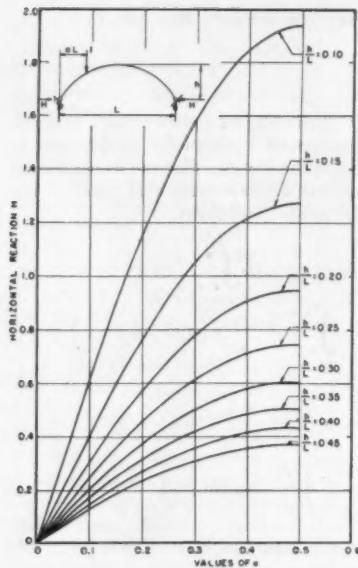
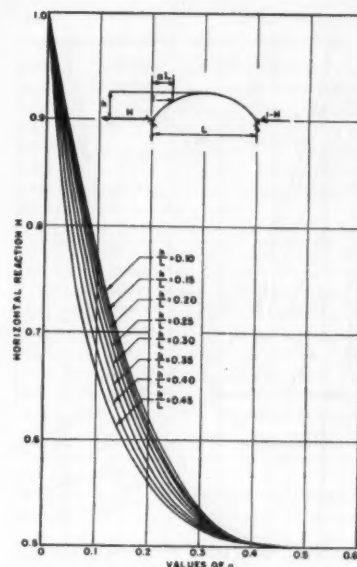

FIG. 3. Influence lines for horizontal reaction in circular arches of constant section—vertical loading.
FIG. 7. Influence lines for horizontal reaction in circular arches of constant section—horizontal loading.
**FIG. 3. Air jack of 300-ton capacity was vital factor in raising platform on caissons. Jack consists of three main parts—upper inflatable rubber gripper, expandable and retractable bellows, and lower inflatable rubber gripper.**
The second problem, the raising of the tower, was solved in the following way. In each of the six temporary caisson brackets, there were two caissons of 6-ft diameter. On each of the temporary caissons there were two air jacks each of 300-ton capacity (Fig. 3). An air jack consists of three major components: (1) an upper section containing an inflatable rubber gripper enclosed in a steel housing, which is fastened to the caisson bracket with a structural tie-beam; (2) a lower section, also composed of a rubber gripper in a steel housing; and (3) between these two sections, an expandable and retractable bellows. The action of an air jack is often compared to that of a boy skinnying up a tree. The lower gripper is expanded by high-pressure air so as to grip the 6-ft caisson; air pressure in the upper gripper is then relaxed; and air forces the bellows to expand, pushing the upper gripper and the structure up several inches. The upper gripper is in turn expanded, and the lower gripper deflated and raised an equal amount by the contraction of the bel-
In Figs. 3 and 4, influence lines for horizontal reaction due to vertical load on circular and parabolic arches were drawn using the values in Table I. As presented, these curves are not too satisfactory for relatively flat arches with values of  $h/L$  other than those plotted. However, this shortcoming can be overcome by using values from the curves in Figs. 3 and 4 to plot other curves such as those shown in Figs. 5 and 6. In the latter figures, curves are shown for five load positions. Obviously, curves similar to these can be drawn quickly for any load positions.
Influence lines for horizontal reaction due to horizontal loading on circular and parabolic arches are shown in Figs. 7 and 8 respectively. Curves comparable to those in Figs. 5 and 6 can also be plotted from Figs. 7 and 8 but are
A sketch of the arch framing used in the new University of Wyoming Field House is shown in Fig. 9 (a). The design loads applied at the purlin points are given in (b) and (c) of the same figure. The numerical value of  $a$  in the horizontal distance relationship,  $aL$ , was determined for each purlin from the properties of the circle, and the curves in Fig. 10 were then drawn from cross-plots of the curves in Fig. 3. Because of the ease with which interpolations can be made in Fig. 7, influence values for horizontal component of load were obtained directly from this figure.